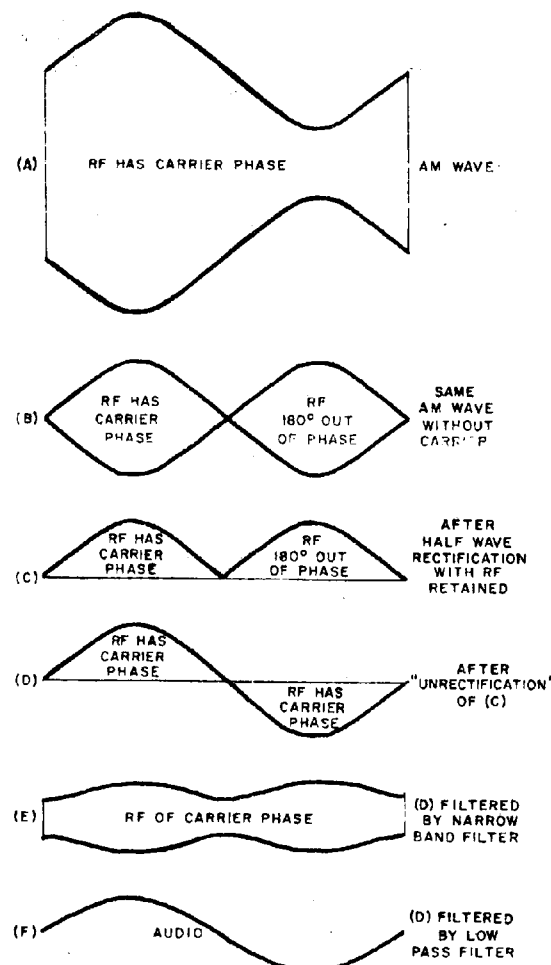

FIG. 1 RD WAVEFORMS
Waveform (A) of fig. 1 is an AM signal with sinusoidal modulation. Removing the carrier results in the DSSC signal at (B). Notice that the envelope of (B) is a full-wave rectified version of the original modulation, and that to recover the original from (B) we must "unrectify" the envelope using as a guide the phase information which the r.f. under it contains. For the example shown, the r.f. has the same phase as the original carrier during the positive part of the modulation cycle, and is 180° out of phase with it during the negative part.
For the present, notice that the flipping-over of the selected portions of the waveform has not only restored the negative half of the audio cycle, but has also polarized the r.f. components so that all parts of the waveform have the same r.f. phase. This means that a carrier has been restored. We can isolate it with a narrow-band filter (a bandwidth of 500 Hz or less is typical) and remove the audio with a low-pass filter. These components are shown in fig. 1 at (E) and (F) respectively.
The process of taking a DSSC waveform and reversing its polarity at opportune moments to get the continuous carrier phase of fig. 1 (E) may suggest the conversion of translatory motion to rotary motion in a mechanical reciprocating system. Hence "RD".
vice versa causes a reversal of output polarity, i.e., the flipping action required to convert the waveform of fig. 1(c) to that of fig. 1(D).